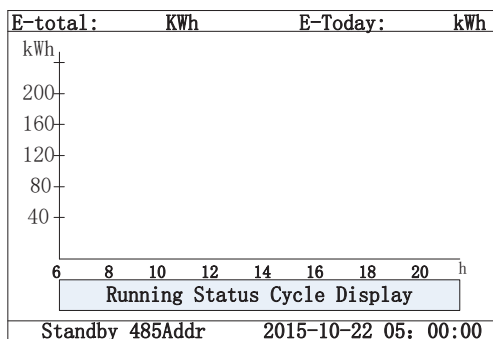

Figure 5.3 - Inverter System in Standby Mode
(3) Standby mode, as shown in Figure 5.3: